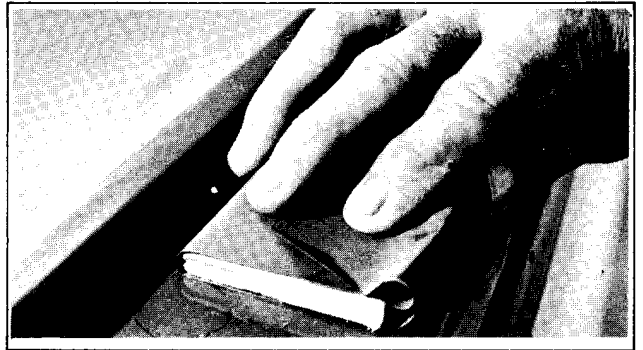

Figure 2-53. Sanding Patch
9. Sand the patched area, using a sanding block with 600-grit wet sandpaper. Finish by buffing with fine rubbing compound such as DuPont #606 and waxing. Weathering will aid to blend touch-up if a slight color difference can be observed. See Figure 2-53.